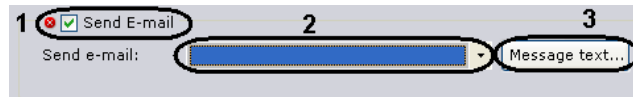

Fig. 6.5—33 Configuring E-mail notification
1. Select the **Send E-mail** check box (Fig. 6.5—33, 1).
2. From the **Send E-mail** list (see Fig. 6.5—33, 2), select the **E-mail** object which will be used for E-mail notification when a detector is triggered.